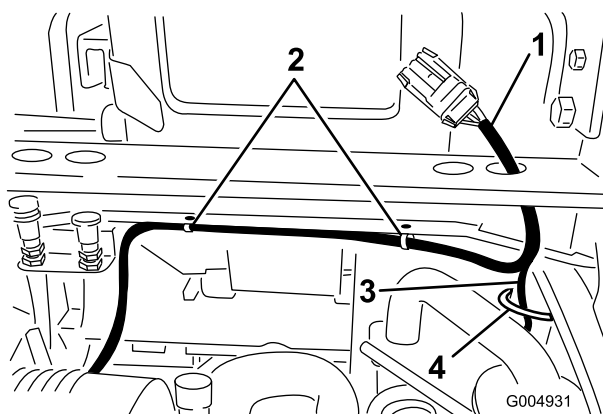

Figure 27
3. From the same end of the harness as the large connector, route the long cab wire (with two connectors), down the ROPS post, under the rear panel frame member and up through the hole in the bottom of the control panel (Figure 27). Secure the long wire to the lower ROPS post with a cable tie.
5. Route the other end of the harness under the rear frame mount toward the left side of the machine while inserting the harness wire clips into the holes in the underside of the rear frame mount (Figure 27).